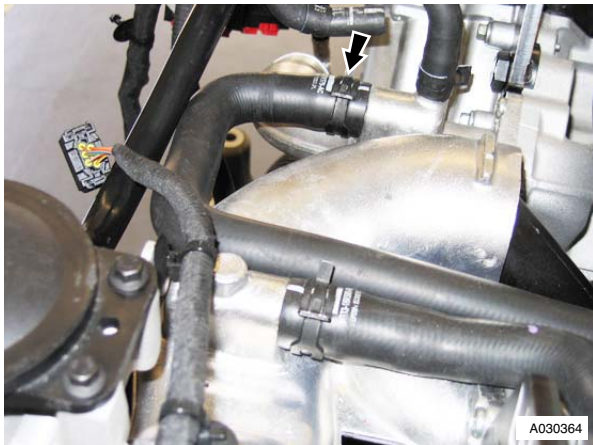

Figure 4
5. Disconnect heater feed hose (clip x1) (refer to Figure 4).